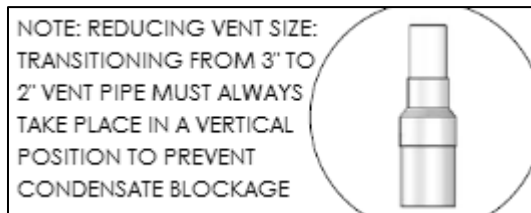

Figure 7 – Transitioning from 3" to 2" Vent Pipe
5. For 2" installations, install a reducing coupling in a vertical section of pipe. See Figure 7.